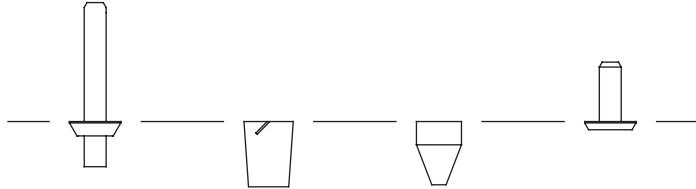

Figure 1
Once all connections are complete, introduce flow as slowly as possible to avoid possible damage. With liquids, make sure all air has been purged before taking readings. Once the float has stabilized, read flow rate by sighting across the largest diameter of the float to the scale graduations on the face of the device. The standard technique for reading a Variable Area Flowmeter is to locate the highest point of greatest diameter on the float, and then align that with the theoretical center of the scale graduation. Refer to Figure 1 for proper float installation. In the event that the float is not aligned with a graduation, an extrapolation of the float location must be made by the operator as to its location between the two closest grads. The following are some sample floats shown with reference to the proper location to read the float.
1. Reassemble the top fitting and float rod, ensuring the float is properly oriented. See Figure 1 for float orientation.
2. Turn the top fitting (K) to the fully tightened position. For models VFCR-141, VFCR-142, VFCR-151 and VFCR-152, skip step 3 below.
3. Turn top fitting counter-clockwise (loosening) until the 4 alignment notches (L) on the bottom of the guide rod holder are positioned to the side, front, and back surfaces of the acrylic meter body while ensuring minimal movement of the top fitting. The orientation of the notches is essential for optimal meter performance.